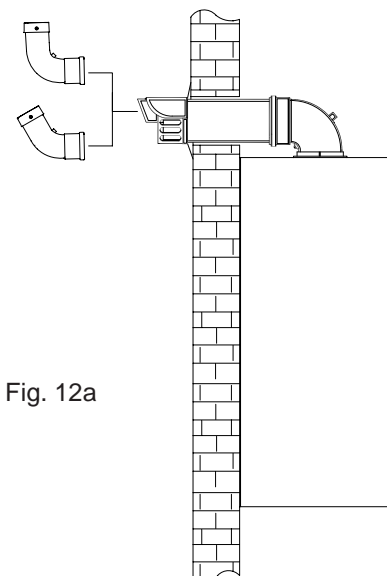

Fig. 12a
CUR110050 (Fig. 12a)	45° flue exhaust deflection bend
CUR110100 (Fig. 12a)	90° flue exhaust deflection bend
**FLUE EXHAUST DEFLECTION BEND (Fig 12a)**